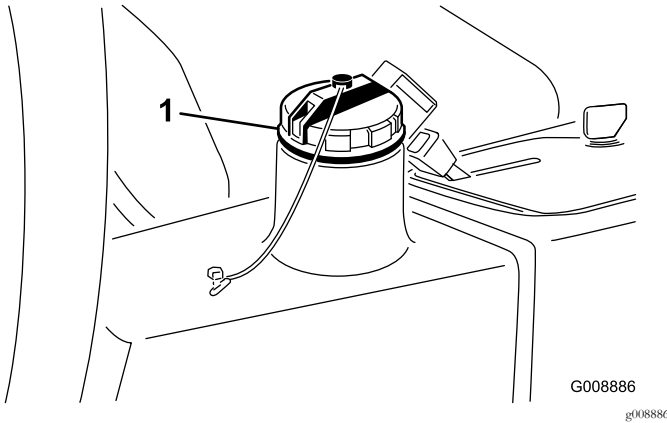

Figure 76
4. Fill the reservoir (Figure 76) with approximately 13.2 L (3.5 US gallons) of hydraulic fluid; refer to Checking the Hydraulic System (page 31).